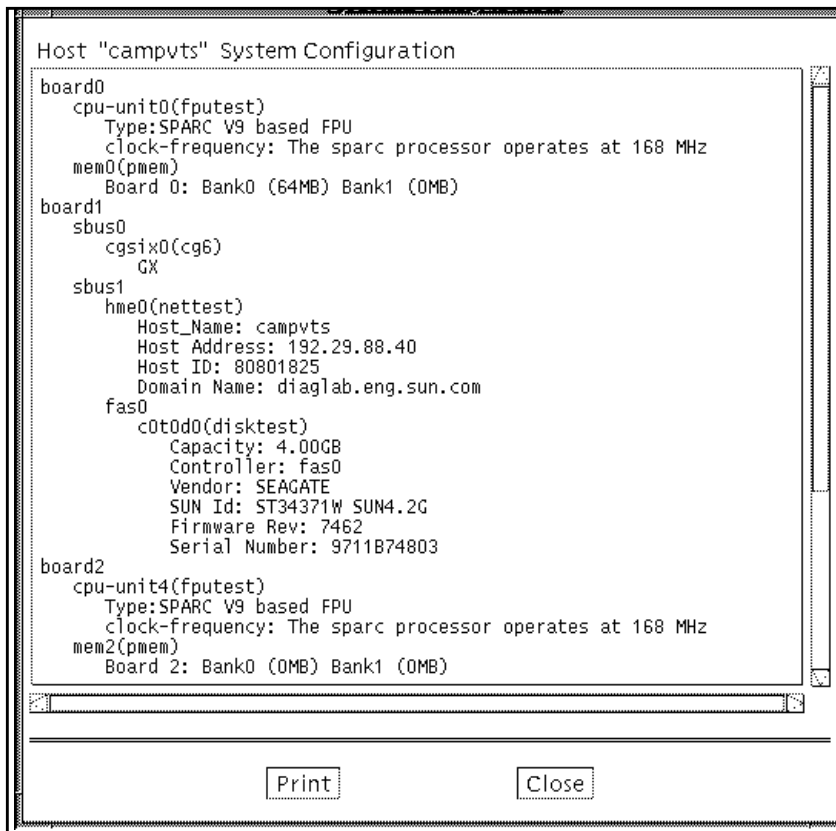

FIGURE 3-16 System Configuration
- **To display a listing of the hardware on the test system and their corresponding hardware tests (see FIGURE 3-16) select System configuration.**